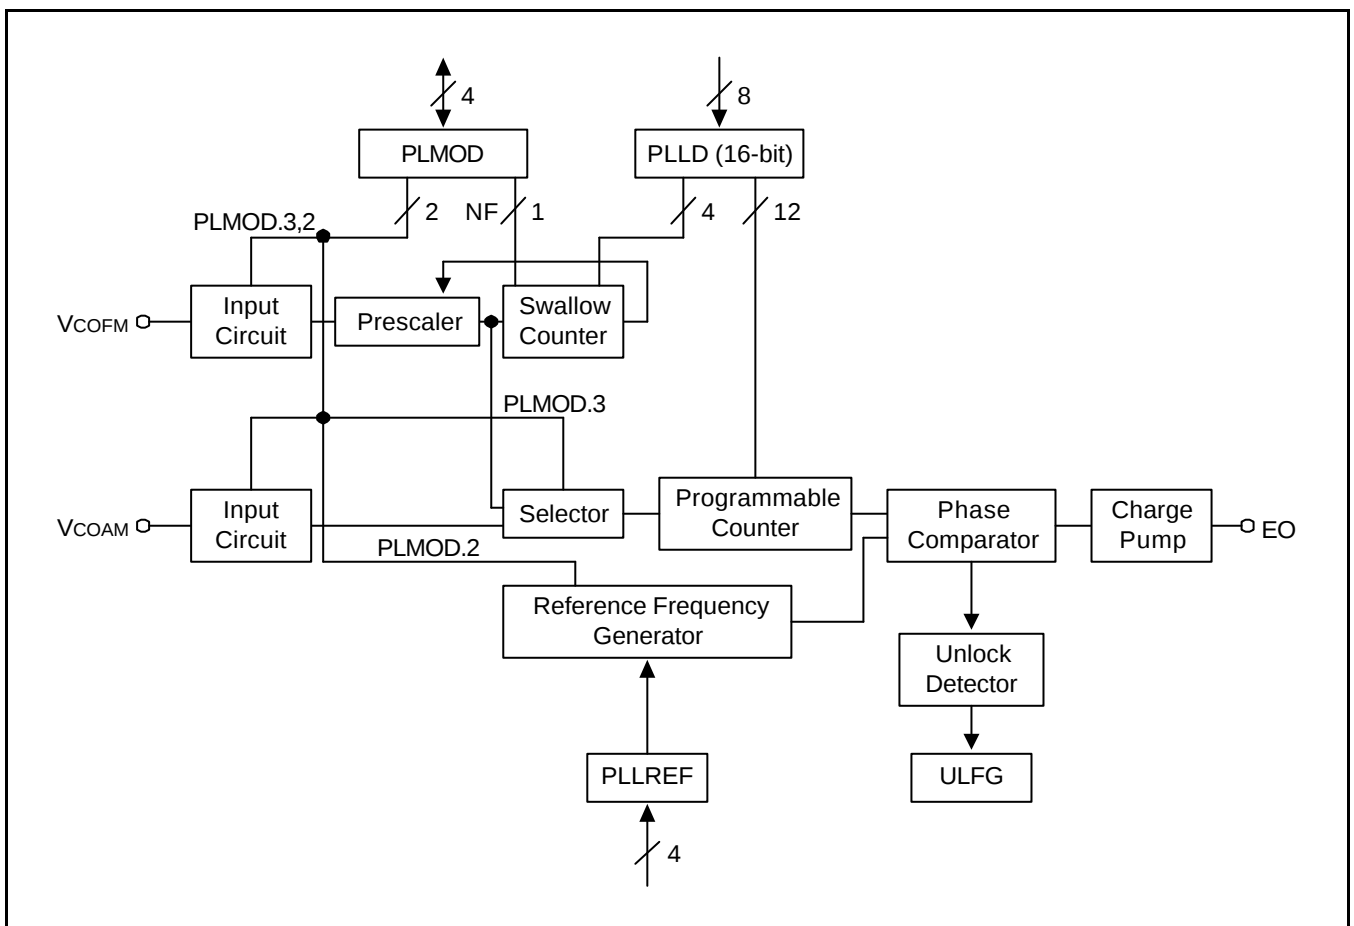

Figure 15-1. Block Diagram of the PLL Frequency Synthesizer
The phase locked loop (PLL) frequency synthesizer locks medium frequency (MF), high frequency (HF), and very high frequency (VHF) signals to a fixed frequency using a phase difference comparison system. As shown in Figure 15-1, the PLL frequency synthesizer consists of an input selection circuit, programmable divider, phase detector, reference frequency generator, and a charge pump.